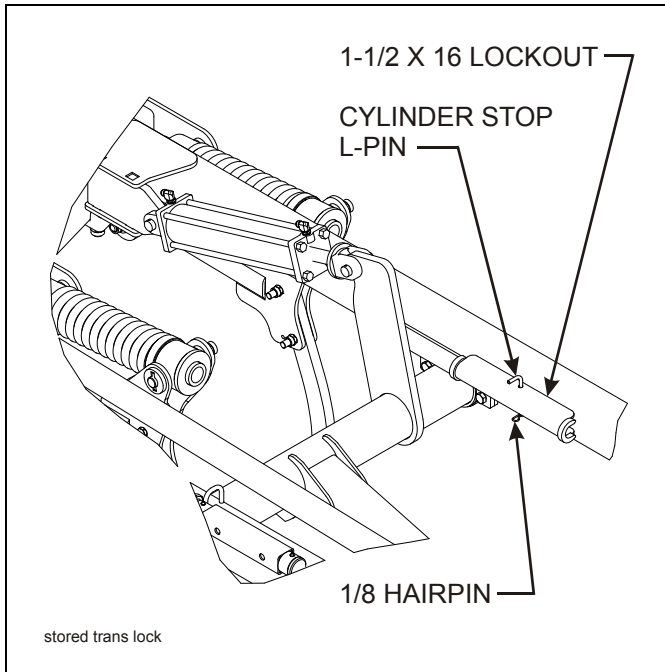

Figure 4-7: Stored Transport Locks
1. Raise the unit to take the weight off of the transport locks. Remove the transport locks from the lift cylinders. Store the transport locks on the retainers above the main lift (**See Figure 4-7.**)